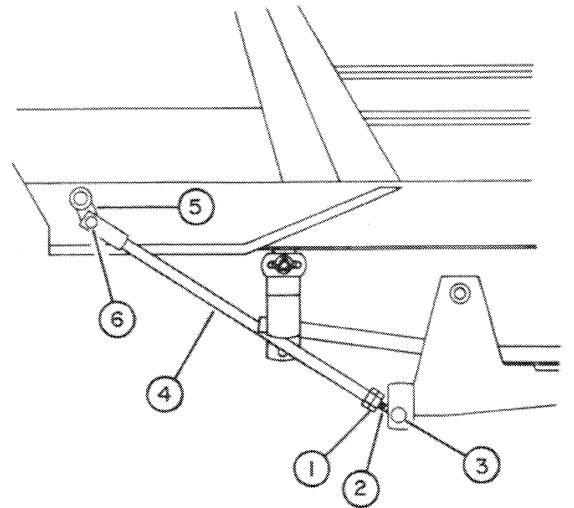

FIGURE 4
- a) Thread a 5/8" nut (fig. 4, item 1) on the bolt with the sleeve head (fig.4, item 2). Screw this bolt into the free end of the push arm (item 4) until the total length of the push arm is approximately 21 1/2" center to center of holes.
- d) Attach push arm to the weldment on the back of the male hitch using a 17/32" x 2" pin (fig.4, item 3). Insert pin and secure with a 3mm x 65mm hairpin.
- e) Attach tube end of push arm (fig.4,item 4) to lift lever (item 5) using a 17/32" x 2" pin (item 6) flatwasher and a 3mm x 65mm hair pin.